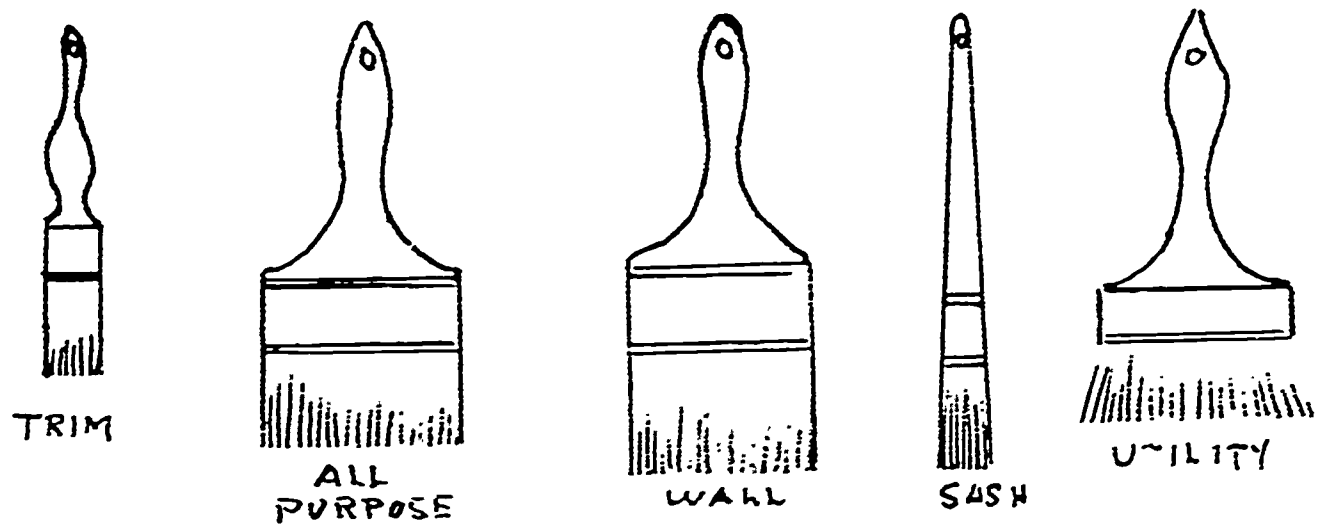

FIG 402
2. Variety of brushes. See Figure 402.
10. Select proper brush. See figure 402.
8. Select proper brush. See figure 402.
2. Select brush. See figure 402.